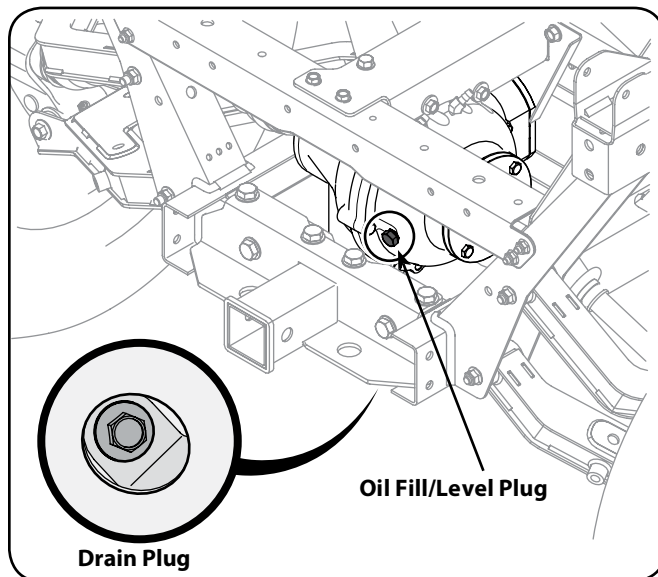

Figure 5-6
4. Locate the oil fill/level plug. See Figure 5-6. Remove the plug and oil should begin to seep out. If no oil seeps out, slowly add oil through the oil fill/level port until oil begins to seep through the oil fill/level plug port.
1. Locate the drain plug on the bottom, front side of the differential, through a cut-out in the skid plate. Remove the drain plug. See Figure 5-6.